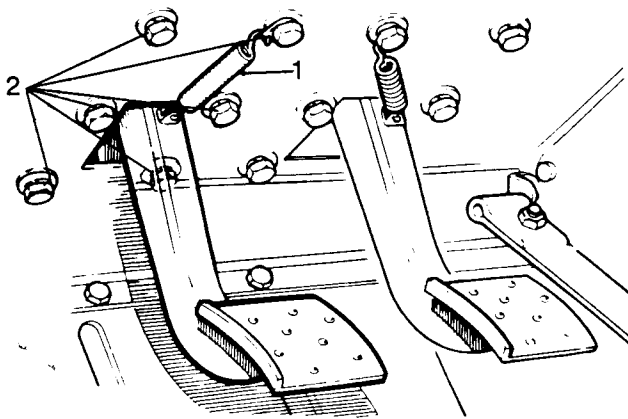

Fig H3.10
(3) Refer to Fig H3.10. Disconnect the return spring (1) from the pedal.
(4) From inside the cab remove the six fixing bolts (2) securing the clutch pedal bracket.